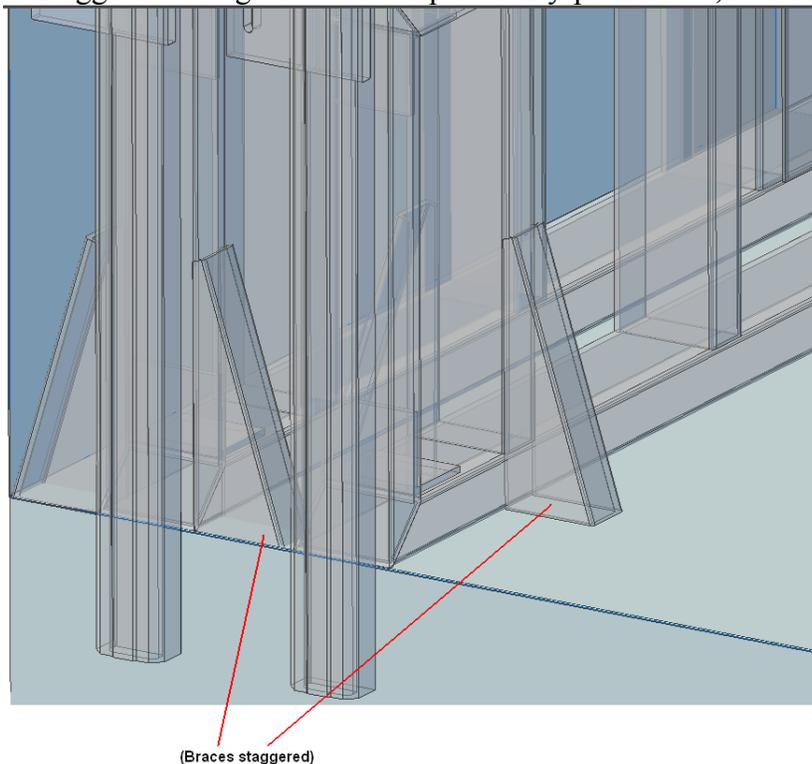

Figure 9: Illustrated view of two Load Leveler units, one unit having Brace components at a closer spacing to the middle of its span than the other
- 2) Take each additional Load Leveler unit one-at-a-time and place as close as possible to the unit just placed near the lower deck front, taking care to ensure that each successive unit's Brace component parts are in a staggered configuration to the previously-placed unit, as illustrated in Figure 9 below: